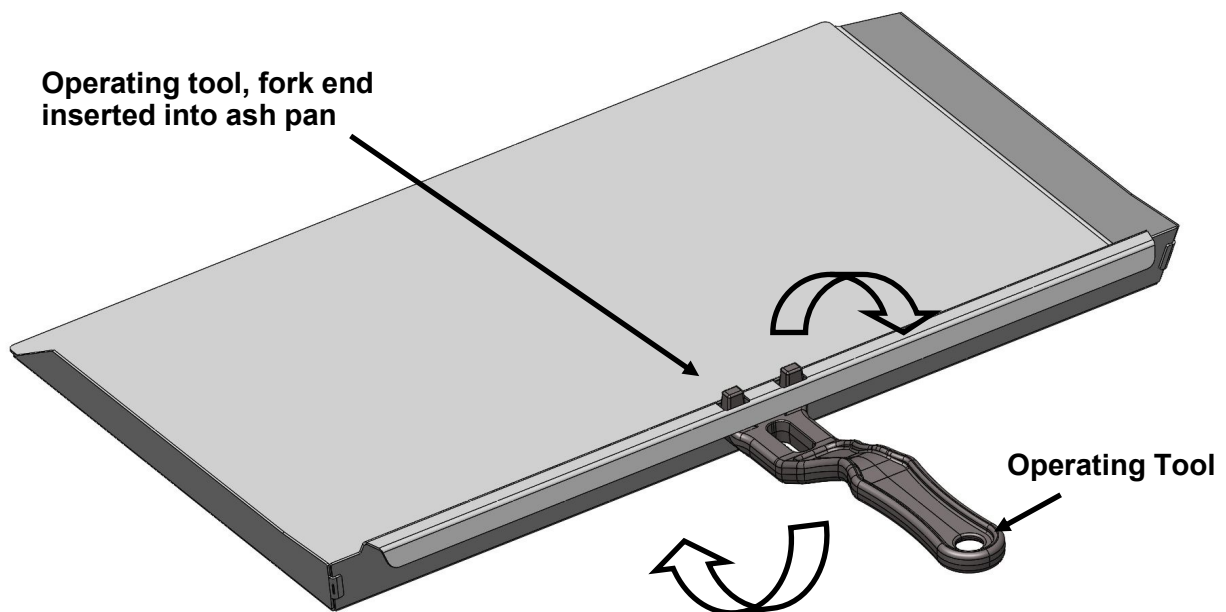

Fig. 5. Ash Pan & Operating Tool
9) Please note, once the above procedure has been completed, it may be necessary to empty the ash pan, (see Fig. 5 below). It is not uncommon depending upon use and the fuel being burnt, you may need to frequently empty the ash pan.